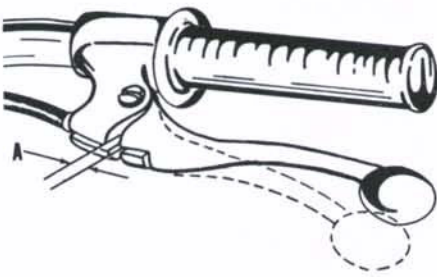
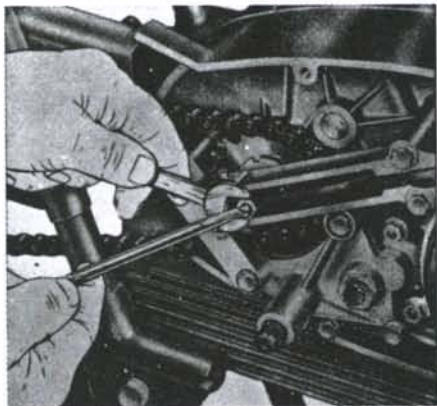

Fig. MG1-5—Clutch hand lever should have approximately 1/8-inch free play at (A). Free play is normally accomplished at cable guides.
Fig. MG1-6—If normal adjustment is inadequate, additional adjustment is possible after removing right side cover. Refer to text.
**CLUTCH CONTROLS.** The clutch hand lever should have approximately 1/8-inch free play at (A—Fig. MG1-5). Normally, adjustment can be accomplished at the cable guides at both ends of cable. If cable guides are nearly screwed out, further adjustment is possible at adjuster shown in Fig. MG1-6. Make certain that lock nuts at all adjustment points are tightened after clutch is adjusted.